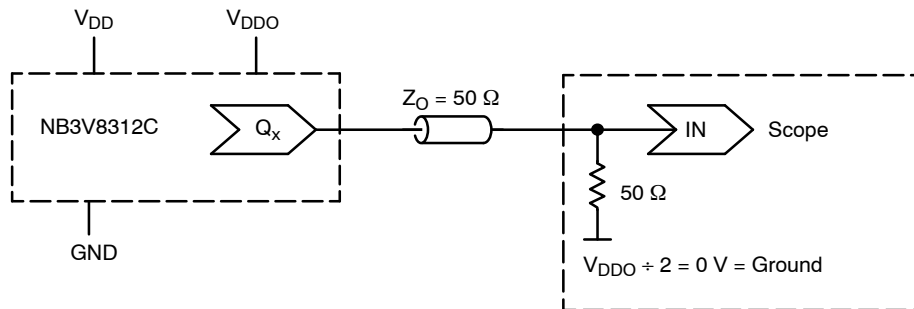

Figure 7. Typical Device Evaluation and Termination Setup – See Table 8
6. Outputs terminated  $50\ \Omega$  to  $V_{DDO}/2$  unless otherwise specified. See Figure 7.
7. Outputs loaded with  $50\ \Omega$  to  $V_{DDO}/2$ ; see Figure 7. CLOCK input with 50% duty cycle; minimum input amplitude = 1.2 V at  $V_{DD} = 3.3$  V, 1.0 V at  $V_{DD} = 2.5$  V,  $V_{DD}/2$  at  $V_{DD} = 1.8$  V.
7. Outputs loaded with  $50 \Omega$  to  $V_{DDO}/2$ ; see Figure 7. CLOCK input with 50% duty cycle; minimum input amplitude = 1.2 V at  $V_{DD} = 3.3$  V, 1.0 V at  $V_{DD} = 2.5$  V,  $V_{DD}/2$  at  $V_{DD} = 1.8$  V.